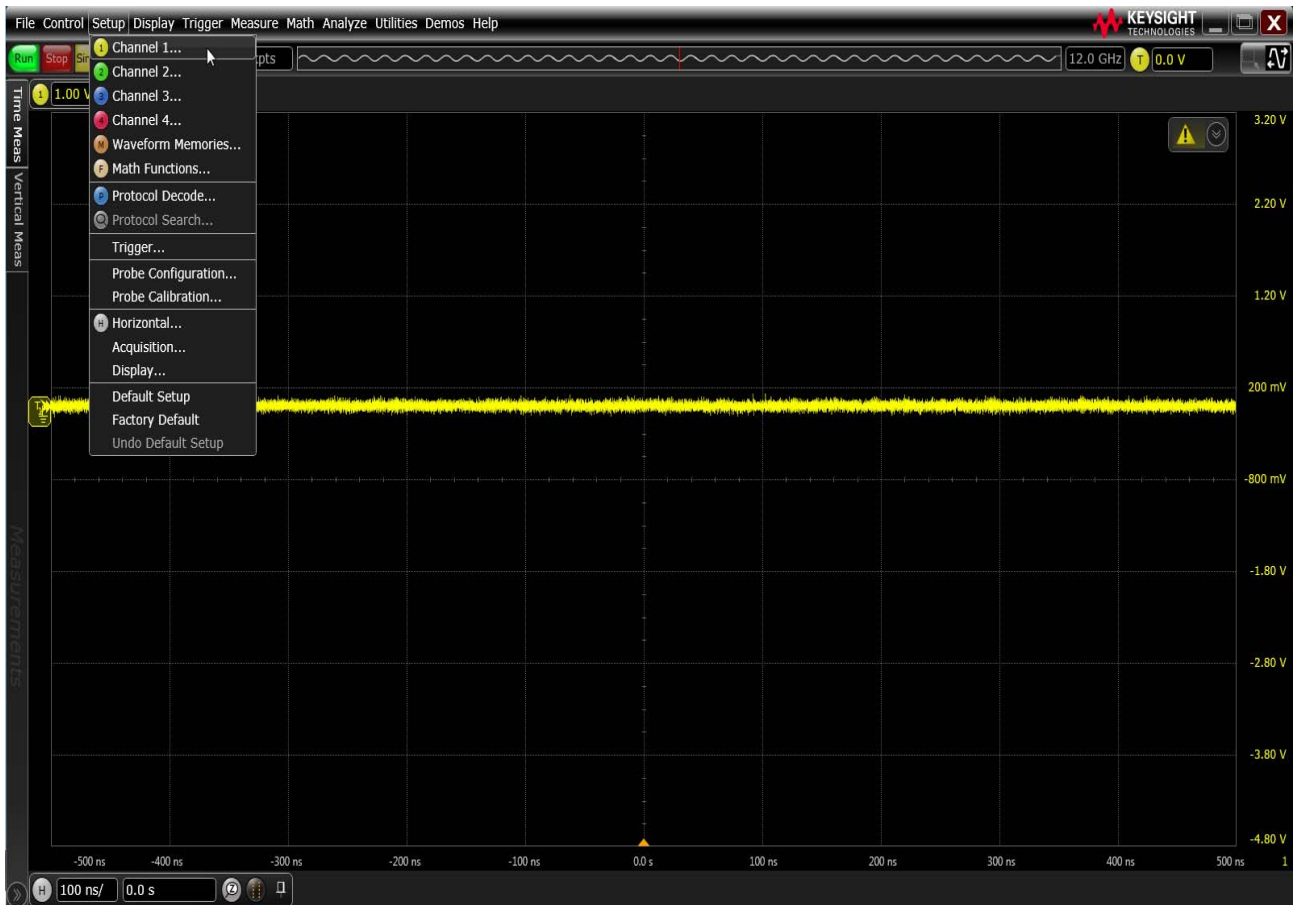

Figure 52 Selection of Channel Setup Dialog from the Setup menu
- 1 On the Infiniium Oscilloscope in the **Setup** menu, select the Channel connected to the probe, as shown in Figure 52.